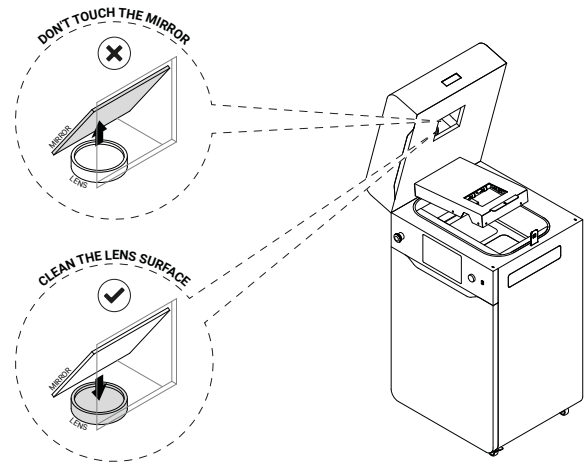

Fig. 13.52 Cleaning F-Theta scanning lens.
11. Use compressed air to blow any lint off the lens surface (fig. 13.52).